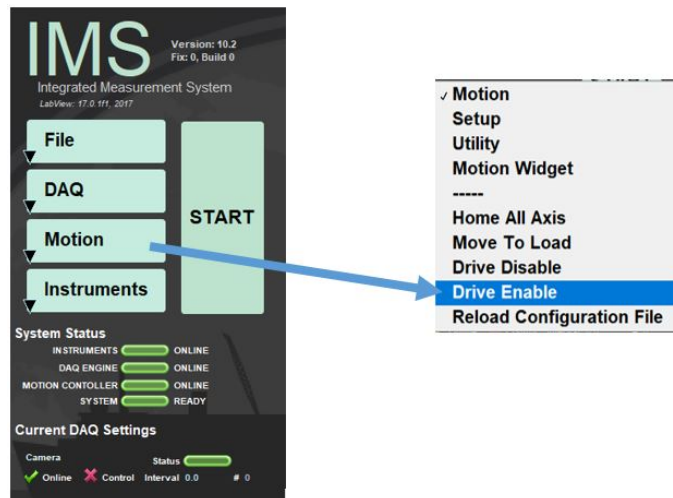

Figure 51: Drive enable control highlighted.
5. In the IMS Control panel click **Motion** and then **Drive Enable** (Figure 51). This allows the software to control the camera movement.